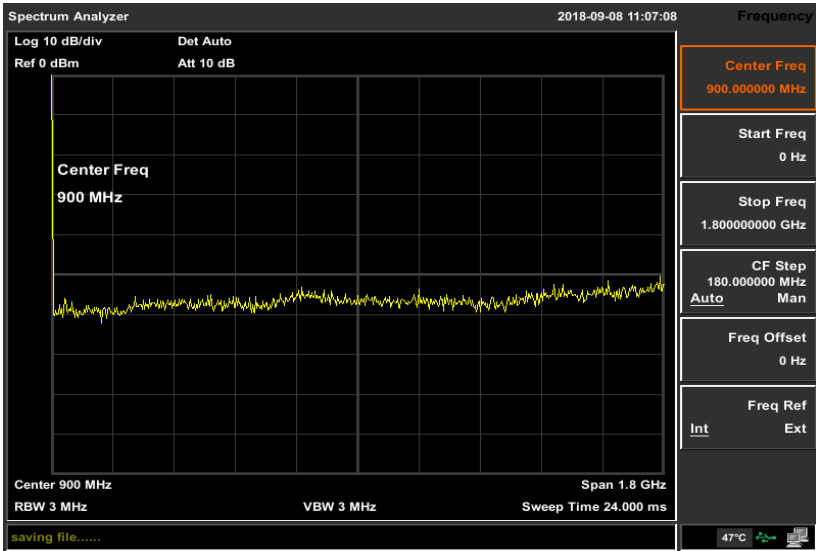

Figure 4-8 Full Span
- 1) Press **【Preset】** to restore the analyzer to its factory-defined state. The Spectrum analyzer will display the spectrum from 0Hz to the maximum span width. The signal generated will display as a vertical line at 100MHz. Refer to Figure 4-8.